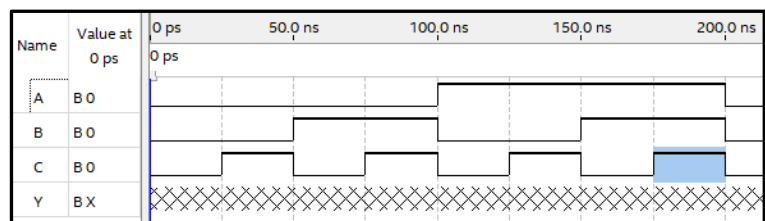

Figure 9: VWF with manual inputs
- Use the magnifying glass to zoom in on the waveform window until you can see 50 ns intervals as seen in the image of Figure 9.
- Using your mouse (make sure the pointer is selected), click and drag your mouse cursor across 100 ns to 200 ns on input A to select the area. Now select the “1” button on the toolbar (or select “Edit”, “Value”, “Forcing High (1)”) to set this signal to High during this time window.
- Manually manipulate your signals to match the image in Figure 9. Save this simulation design.